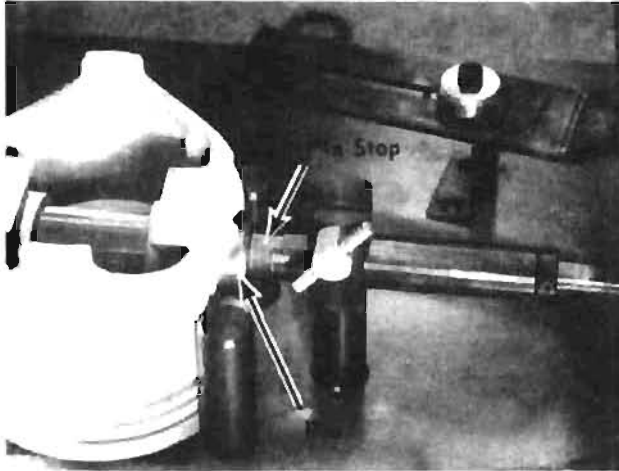

FIGURE 8
9. Slide the Pin Stop against the Pin. See Figure 8.